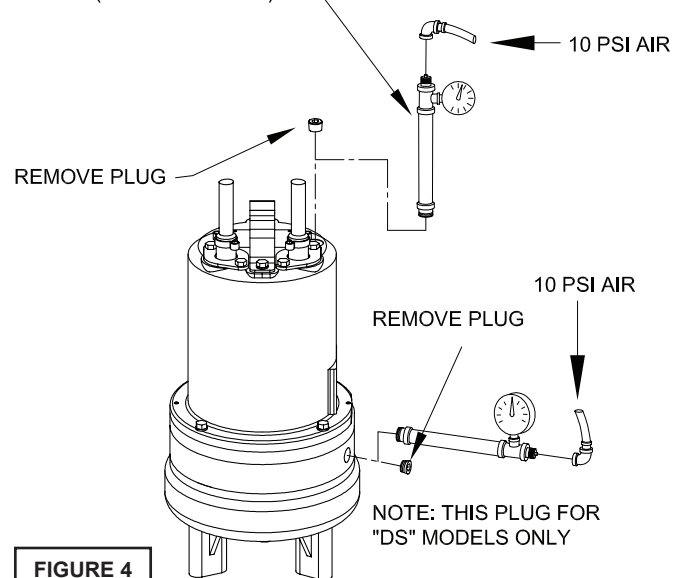

FIGURE 4
To clean out volute (1) or replace impeller (33), disconnect power, remove hex bolts (26), and lockwasher (12), vertically lift motor and seal plate assembly from volute (1), see Figure 4. Clean out body if necessary. Clean and examine impeller (33), for pitting, wear, cracks or breakage and replace if required, inspect square ring (36) and replace if cut or damaged. If the impeller (33) needs replacing, place a flat screwdriver in the slot of the end of the shaft to hold the shaft stationary while unscrewing the jam nut (66) if applicable and impeller (33).